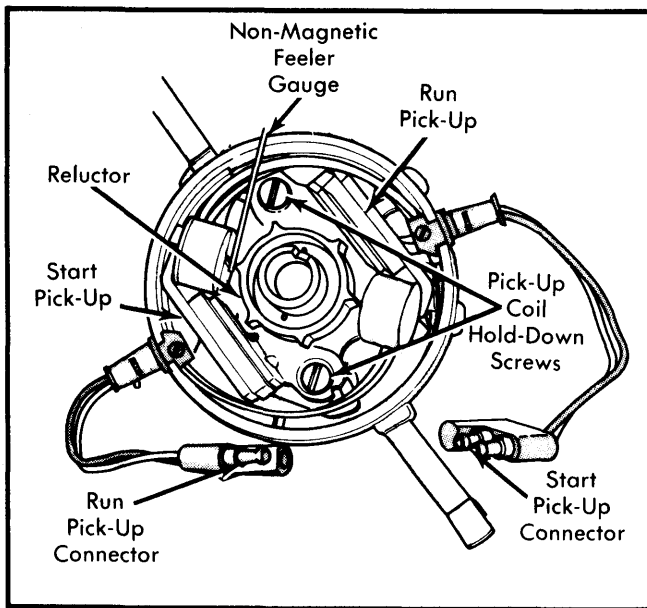

Fig. 9 Checking Distributor Pick-Up Air Gap
13) Remove distributor cap and rotor and check reluctor-to-pick-up coil(s) air gap. Air gap for single pick-up coil distributor should be .006". On dual pick-up coil distributors air gap should be .006" for start pick-up coil and .012" for run pick-up coil. If not to specifications, adjust air gap using a non-magnetic feeler gauge. See Fig. 9.